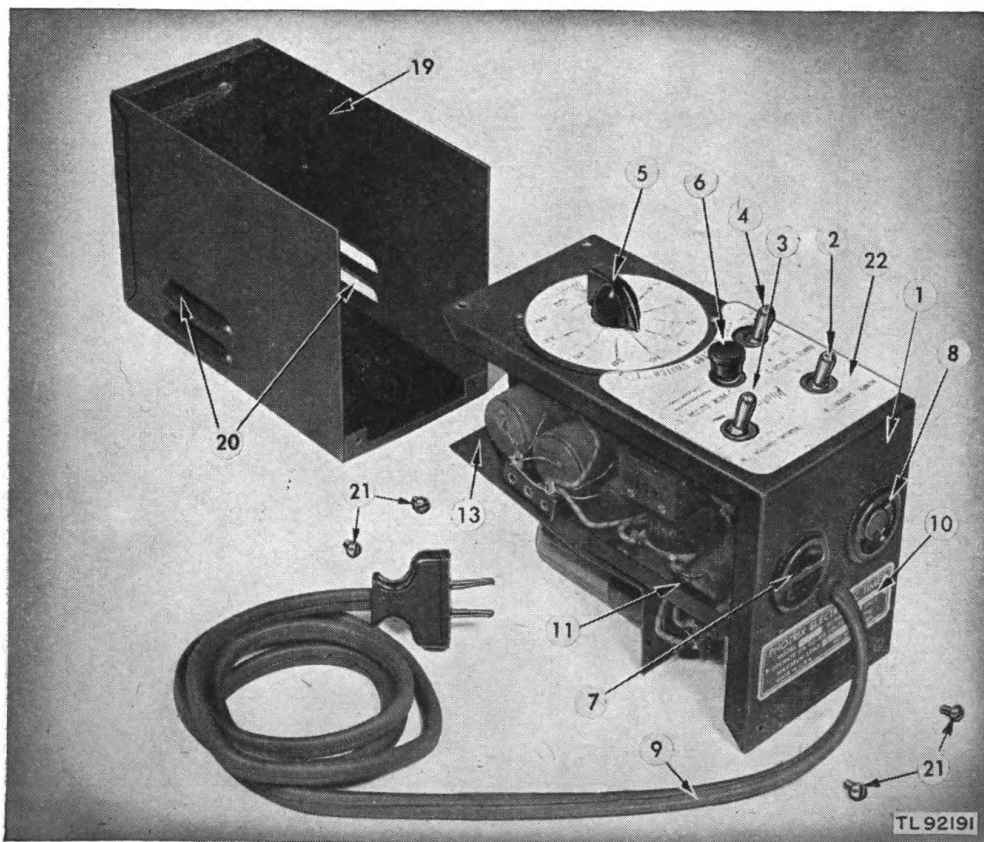

Figure 2. Chassis with case removed.
The electronic timer, Photrix model 1528, is a compact timing device designed to control the exposure time of photographic printers, enlargers, or other photographic equipment by regulating the length of time of current flow to the equipment. The unit is 6½ inches long, 3¾ inches wide, and 5½ inches high. It weighs approximately 3½ pounds. It is sturdily constructed and will handle loads up to 1,500 watts. The timer operates on 115-volt, 50-60-cycle, alternating current and consumes approximately 30 watts in its functional operation. A time-selector switch provides 24 time intervals from ⅓ second to 55 seconds in two ranges of 12 steps each. A control-identification card fits loosely over the switches to help familiarize the operator with the controls. (See figs. 2 ② and 5 ②.)
2. Detailed Description (figs. 2, 3, and 4)
a. CHASSIS. The chassis ① consists of the top and rear panels and a subpanel. All functional parts of the unit are contained in this chassis assembly.
(1) *Top panel* (fig. 2). The top panel incorporates all the controls of the timer. The POWER SWITCH ② for turning on the timer, and the MANUAL SWITCH ③ used for making exposures longer than those provided for by the timer, for lighting the equipment, for focusing, or other manipulation, are located on the rear of the top panel. The RANGE SWITCH ④ for selecting the long or short range of the TIME SELECTOR SWITCH ⑤ is on the left of the rear section of the top panel; the PUSH BUTTON SWITCH ⑥ for making the exposure, is in the center of the rear half of the top panel. In the center of the front part of the top panel is the timer selector switch ⑤, the pointed knob of which can be turned to any position of the 360° dial which is calibrated in two ranges of 12 click positions each. The inner, or short-range calibration provides exposure from $\frac{2}{10}$ second to $2\frac{3}{4}$ seconds; the outer, or long-range scale provides exposures from 4 seconds to 55 seconds.
(2) *Rear panel* (figs. 2 and 3). Two receptacles are mounted on the rear panel: receptacle J1 ⑦, a standard type for plugging in the printer or enlarger to be operated; and the four-hole receptacle J2 ⑧, utilized when operating the timer by remote control. The 5-foot power cord ⑨ and the manufacturer's nameplate ⑩, showing model number, voltage, and maximum controllable load, are also on the rear panel. The lower section of the panel is pierced by a 2-inch louvre to provide ventilation. Two supports ⑪, welded to the inner surface of the rear panel and extending forward, support the filament transformer ⑫ and the subpanel ⑬.
b. *CASE* (fig. 2). The case assembly ⑲ consists of the two side panels, which have louvres ⑳ for ventilation, the bottom, which is made with the sides from one piece of sheet metal, and the front panel, also louvred and welded to the sides and bottom. The case is drilled and tapped for four $\frac{3}{32}$ machine screws ㉑. Two of these machine screws screw into the case through holes in the front of the top panel; the other two enter through the bottom of the rear panel. The case, when attached to the top and rear panels of the chassis assembly, completely incloses the unit.
Since the timer is ready for use when unpacked, the only preparation needed before actual operation is to test the equipment. Plug power cord ⑨ into a 115-volt, 50–60-cycle, a-c receptacle. Throw power switch ② to the ON position. Throw range switch ④ to the SHORT RANGE position, and turn selector switch ⑤ to $\frac{3}{10}$ second. Plug cord from enlarger or other equipment into standard output receptacle J1 ⑦ (fig. 2) on rear panel of timer. After the tubes have warmed sufficiently (approximately 30 seconds) push the push-button switch ⑥, and observe the enlarger lamp to see if the exposure duration is approximately $\frac{3}{10}$ second. Shift the selector switch ⑤ to various stops and test again. Test to see if enlarger or printer lamp burns continually when the manual switch ③ is thrown to the rear (ON). Shift the range switch ④ to the long range position, and actuate the timer at various selector switch settings; check to see if the exposure periods vary in accordance with the readings on the selector-switch dial. No damage will be done to the timer if the wrong switch is thrown or two switches operated at the same time, but an erratic exposure in that particular instance may result.
5. Direct Operation (figs. 2 and 5)
a. The design of the timer makes it available for use either directly by use of the push-button switch ⑥, or by remote control from a foot switch or the platen switch of a contact printer. For direct operation no attachments are needed. Connect the timer as follows:
(3) *Connecting timer to printer* (fig. 2). Connect timer to power supply. Remove four-pin plug from four-hole socket on printer, and insert plug into remote-control receptacle ③ on rear panel of the timer. The plug will enter the receptacle only when the large pins are fitted into the large holes. Turn shading switch of printer to OFF position. Throw manual switch ③ of timer forward into NORMAL position. Throw power switch ② of timer into ON position. Set timer to desired time interval. Insert negative and sensitized paper into printer and close platen. The timer will turn printing lights on and off automatically.
(4) *Manual operation of printer*. To operate the printer without the automatic timer, withdraw four-pin plug from remote-control receptacle ③ on rear panel of timer. Insert the plug into the four-hole socket mounted on the printer. The timer can then be removed for use elsewhere and the printer operated manually.